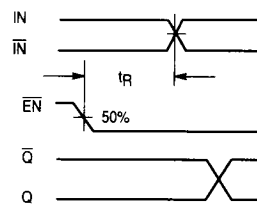

Figure 3. Release Time
7. The release time is the minimum time that \overline{EN} must be deasserted prior to the next IN/ \overline{IN} transition to ensure an output response that meets the specified IN to Q propagation delay and output transition times (see Figure 3).